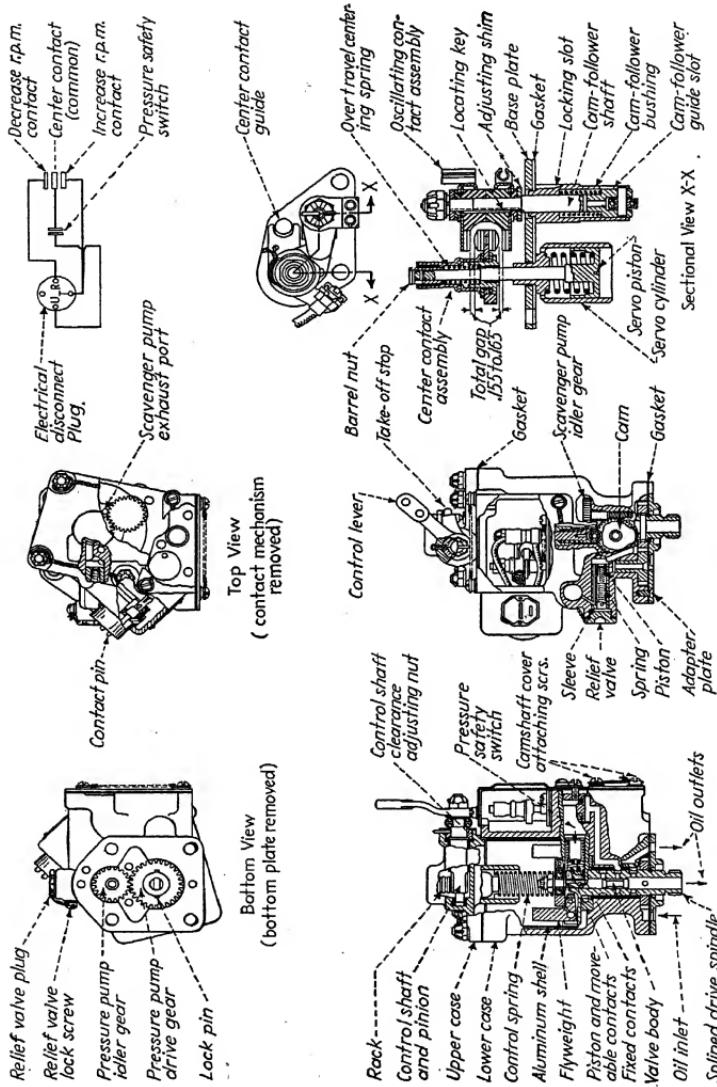

FIG. 68.—Assembly drawing of proportional governor.
**Disassembly of Governor. Upper Case** (Fig. 68).—Remove the lock wire, washers, and four castle nuts that secure the upper case. Remove the upper case and gasket.